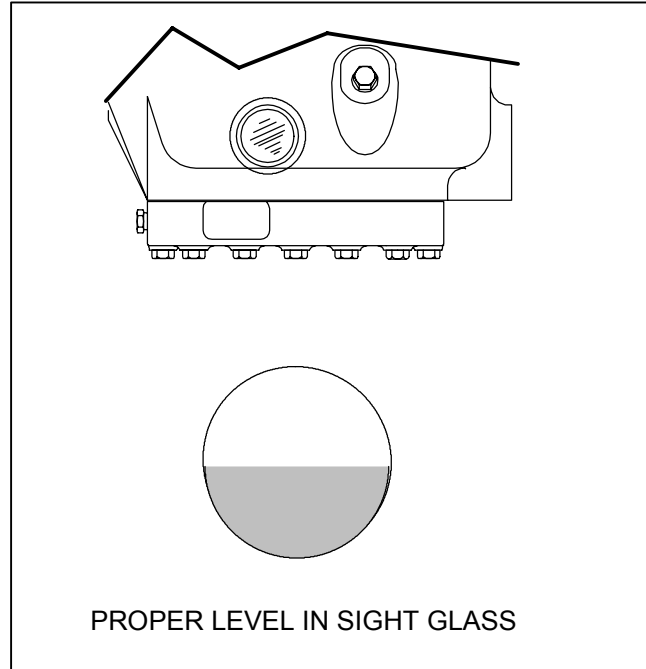

Figure 2-2. Oil Level in Sight Glass
- b. Check oil level in sight glass (See Figure 2-2). If necessary, add or remove oil.